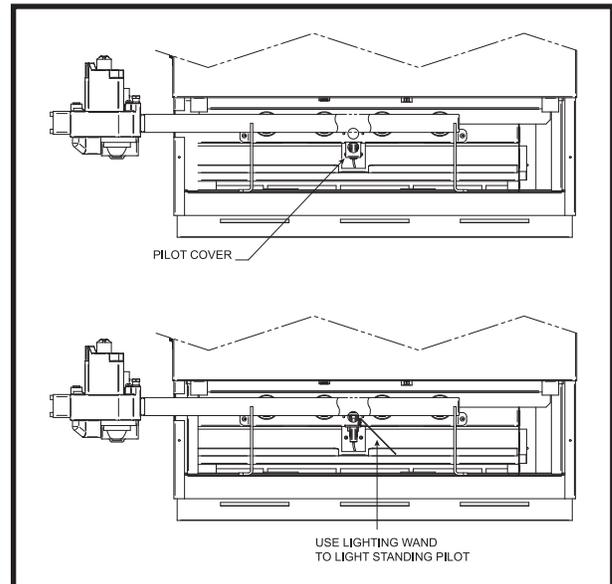

FIG. 35 Lighting Wand
10. Use the loop end of the wire lighting wand, shipped with the instruction package, to hold the match and reach the pilot. An access slot is provided in the lower front jacket panel, beside the burner, to insert the lighting wand and match to the pilot. Lift the pilot cover (FIG. 35) to access the pilot. Push down and hold in the red button on the gas valve. This should start gas flow to the pilot. Continue to hold the red button in for about one (1) minute after the pilot is lit. Release the button and it will pop back up. The pilot should remain lit. If the pilot goes out, repeat steps 5 through 10.